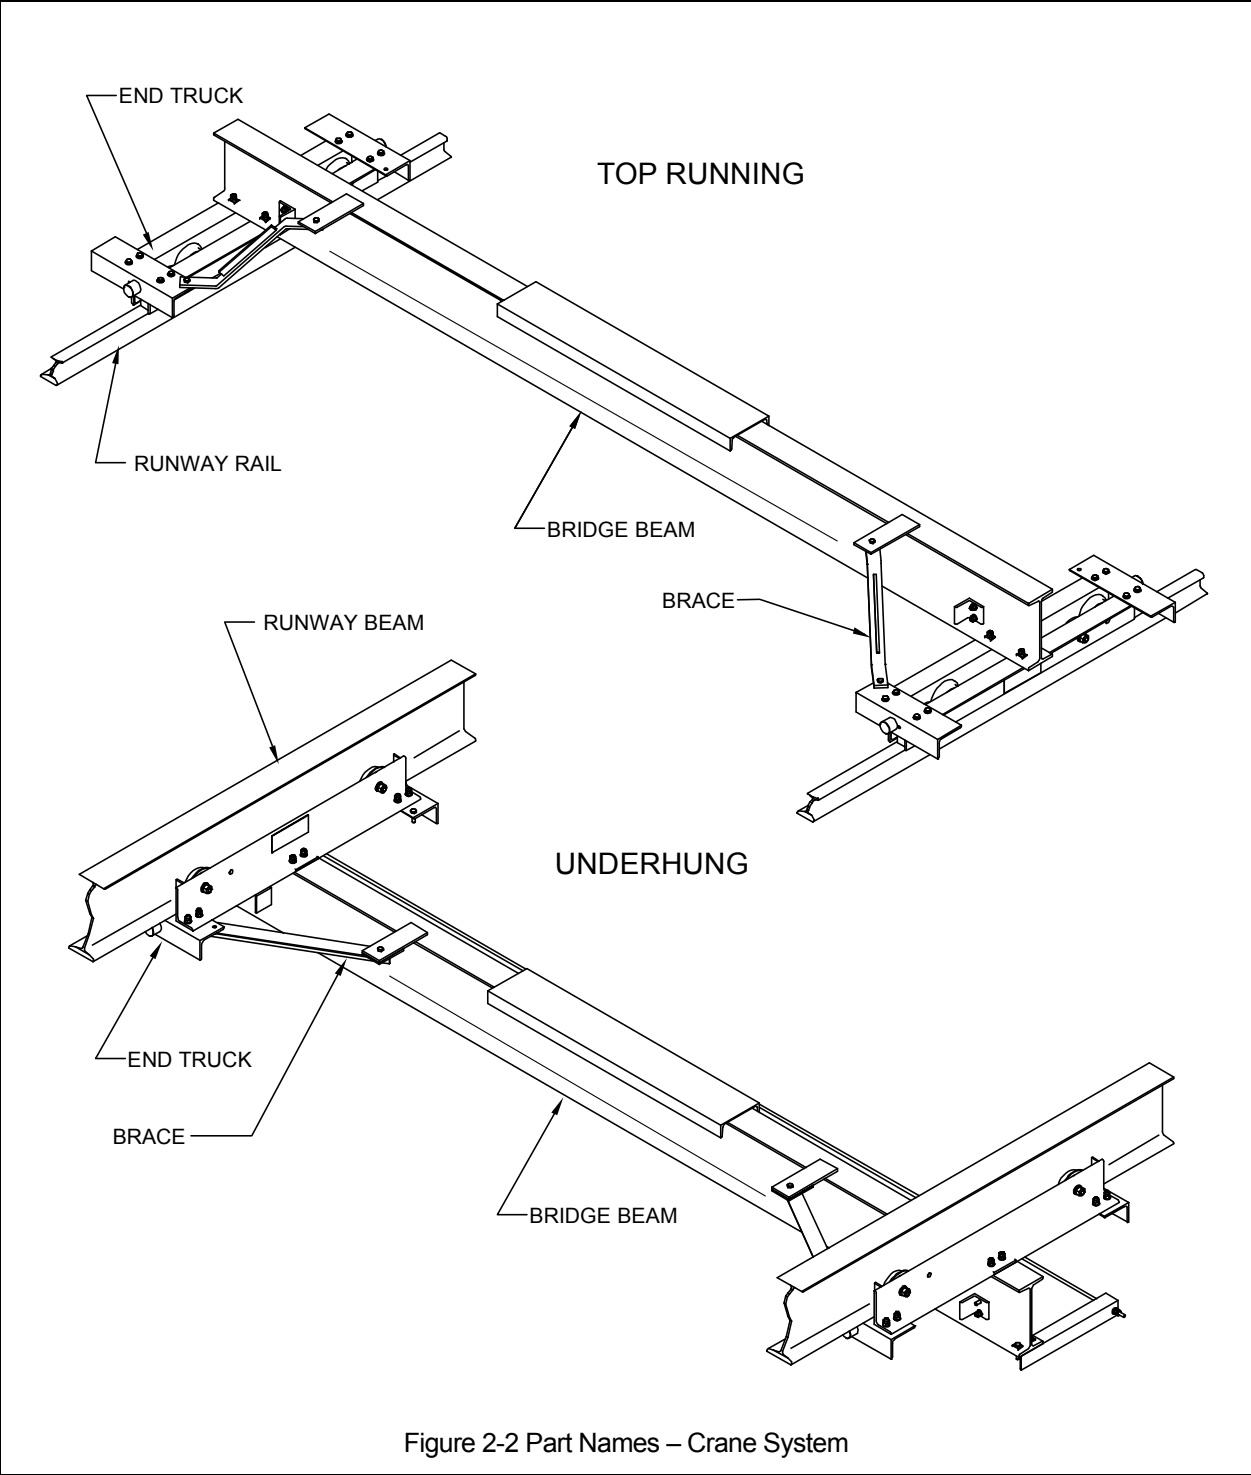

Figure 2-2 Part Names – Crane System
3.3.6 End Truck Assembly & Installation – Here the assembly of the end trucks is completed and they are installed onto the runway. Orientation of the end trucks on the runway is important. Make sure you put each end truck onto the runway so that the hole in the end bracket for the brace is on the inside of the runway (see Figure 2-2).
- **Underhung** – As shown in Figure 2-2 for Underhung cranes, the bridge beam is attached to the under side of the end trucks.
- **Top Running** – As shown in Figure 2-2 for Top Running cranes, the bridge beam is attached to the upper side of the end trucks.